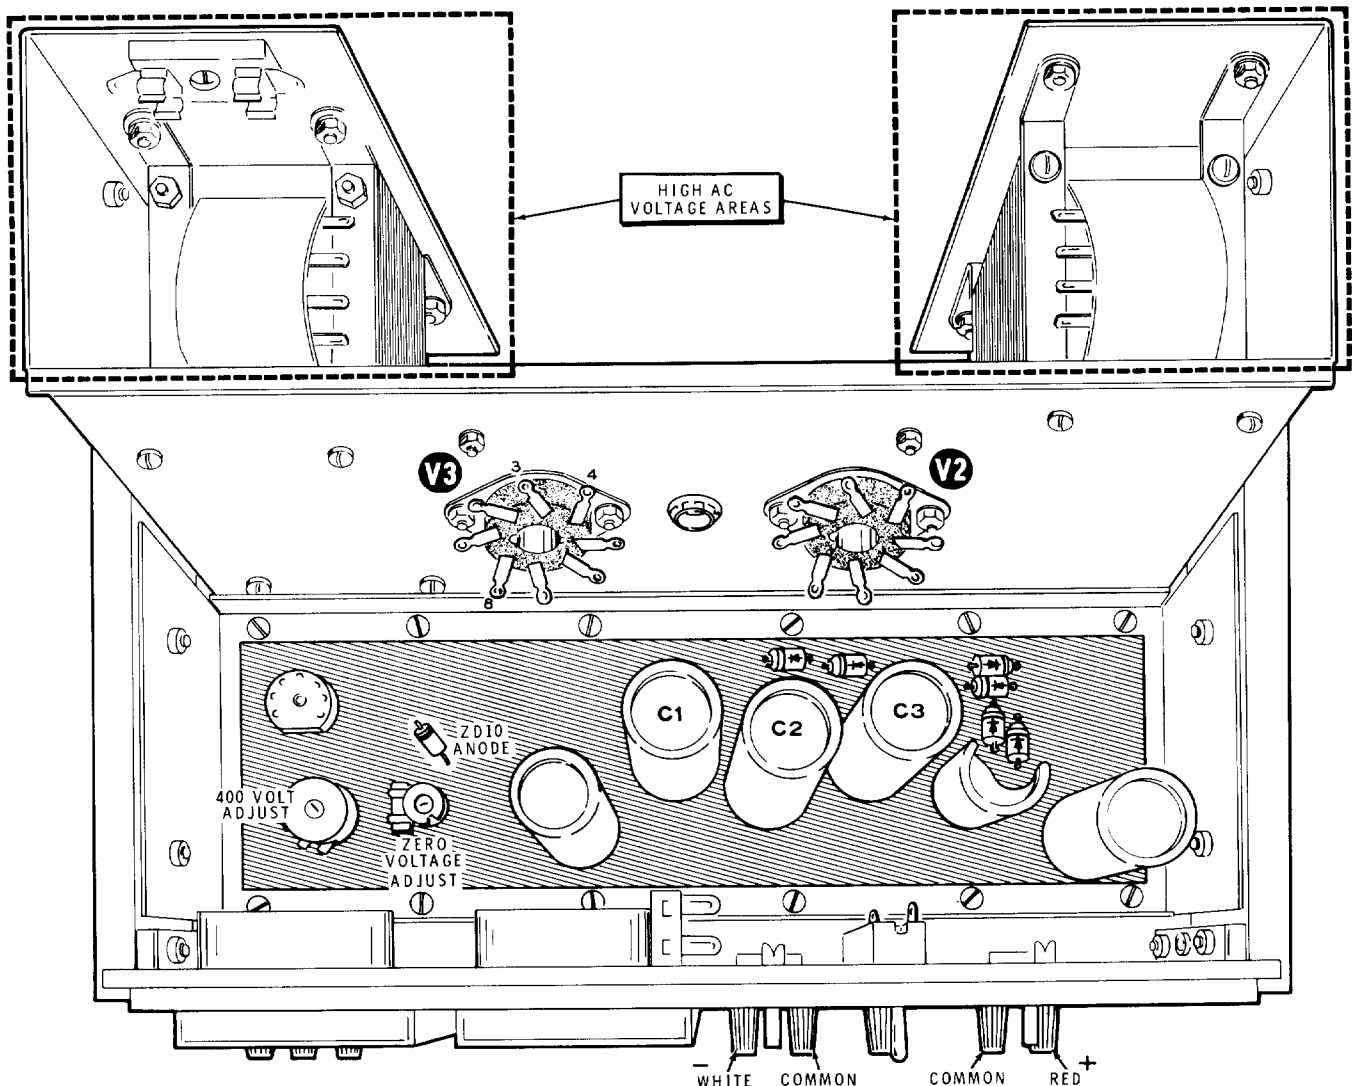

Figure 5
Refer to Figure 5 for the following steps. Remove the instrument top cover.
**WARNING:** When the line cord is connected to an AC outlet, high AC voltage is present at several places on the chassis. See Figure 5. Also, when the Power Supply is turned on, high voltage DC will also be present. Be careful that you do not contact these high voltage areas or an electrical shock will result.
4. Check the position of the meter pointers. Carefully turn the slotted adjustment screw in the front of the meter until the pointers are at the zero (0) mark on the scale.